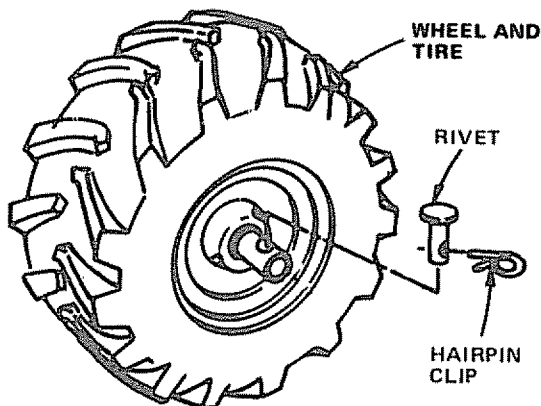

FIGURE 33
3. Removing wheel and tire for tire repair (Fig. 33).